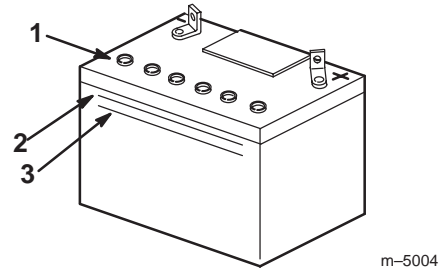

Figure 19
2. Look at the side of the battery. The electrolyte must be up to the Upper line (Fig. 19).
Note: Do not allow the electrolyte to fall below the Lower line (Fig. 19).
3. Remove the vent caps from the battery (Fig. 19).
4. Slowly pour distilled water into each battery cell until the electrolyte level is up to the Upper line (Fig. 19) on the battery case.
5. Wait 5 to 10 minutes after filling the battery cells. Add distilled water, if necessary, until the electrolyte level is up to the Upper line (Fig. 19) on the battery case.